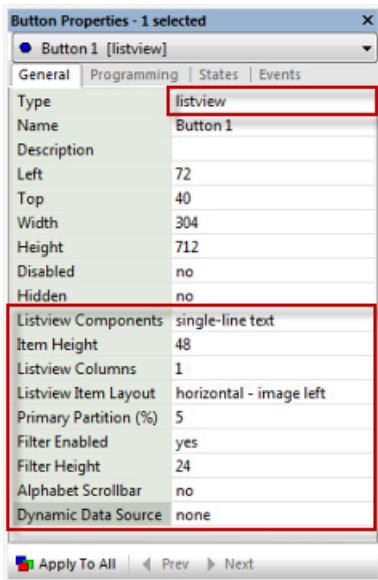

FIG. 163 TPDesign5 - General Properties for Listview buttons
- a. In the General tab, set properties to specify basic display characteristics for the selected Listview button (FIG. 163).